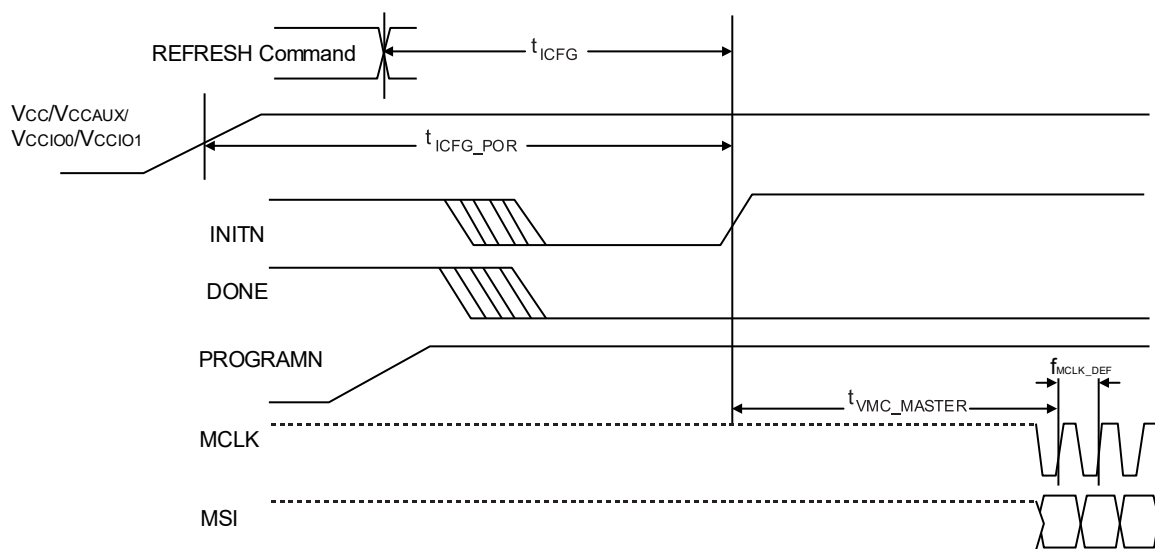
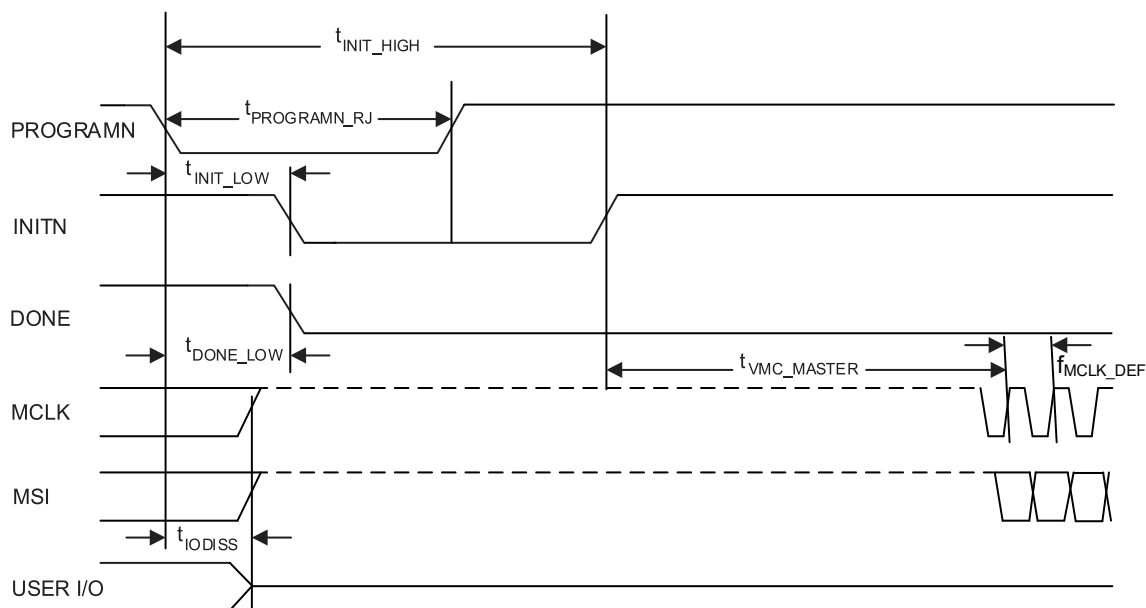
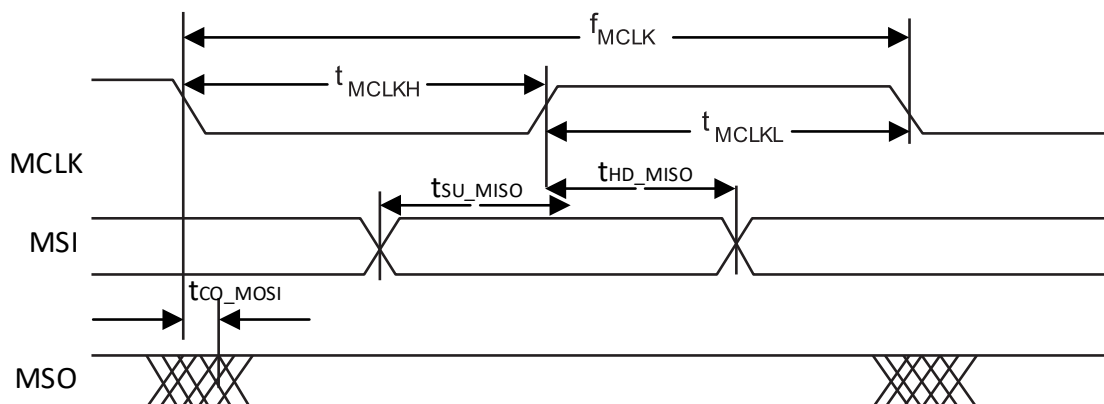
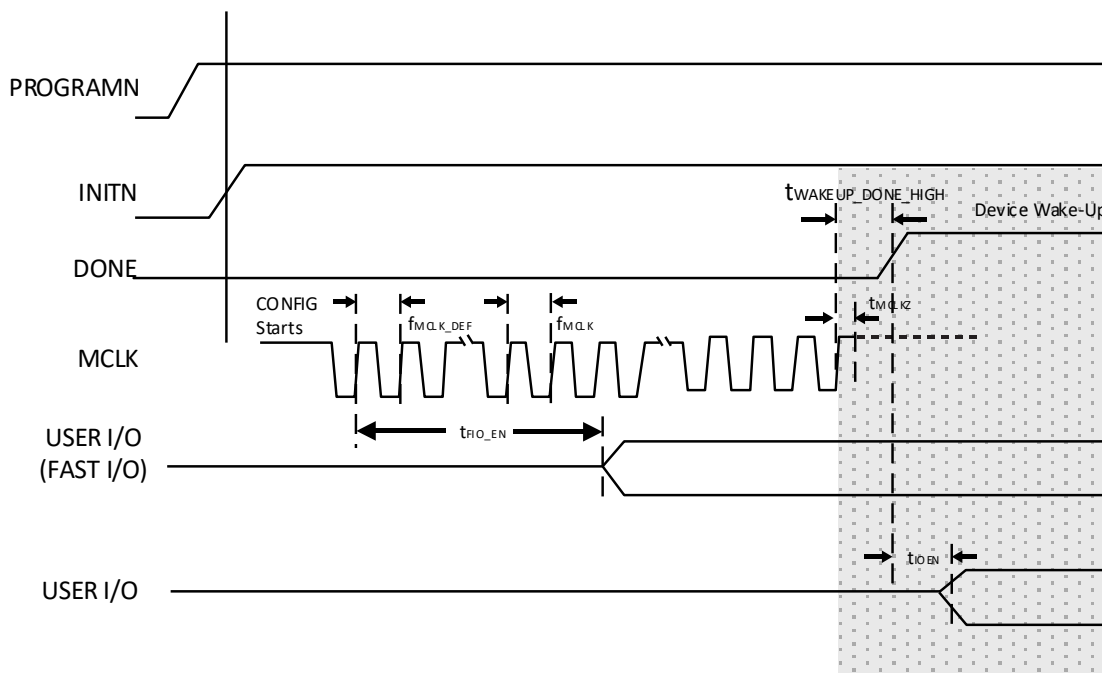

Figure 2.14. Controller SPI POR/REFRESH Timing (Certus-N2 only)
Figure 2.16. Controller SPI PROGRAMN Timing (Certus-N2 only)
Figure 2.18. Controller SPI Configuration Timing (Certus-N2 only)
Figure 2.20. Controller SPI Wake-Up Timing (Certus-N2 only)
- added the SERDES and PCIe rows. Table 2.32. Nexus 2 External Switching Characteristics (VCC = 0.82 V): - changed the t_{W_PRI} Clock Pulse Width for Primary Clock value from 0.94 ns to 1.25 ns; - changed the t_{SKEW_R1B} Region Clock skew within 1 HPIO Bank value from 151 ps to 160 ps; - changed the t_{W_EDGE} Clock Pulse Width for Edge Clock values from 0.39 ns and 0.44 ns to 0.36 ns and 0.40 ns; - changed the t_{W_PHY} Clock Pulse Width for PHY Clock values from 0.19 ns and 0.22 ns to 0.18 ns and 0.20 ns; - changed the $f_{DATA_GDDR4_MP}$ Input Data Bit Rate for MIPI PHY from 1200 Mbps to 1800 Mbps. Table 2.34. Internal Oscillators (VCCa = 0.8 V, VCCauxa = 1.8 V): changed the DCH_{CLKHF} Duty Cycle (Clock High Period) minimum and maximum from 35% and 65% to 43% and 57%. - Newly added the Flash Download Time section. - Newly added the Flash Program and Erase Current section. - Newly added the Generic SERDES Specification section. Table 2.50. Nexus 2 sysCONFIG Port Timing Specifications: - changed the $t_{PROGRAMN}$ PROGRAMN LOW pulse accepted value from 1500 ns to 1200 ns; - changed the $t_{PROGRAMN_RJ}$ PROGRAMN LOW pulse rejected value from 25 ns to 500 ns; - added Note 3, Certus-N2 devices only. - Updated figure caption to the current for Figure 2.14. Controller SPI POR/REFRESH Timing (Certus-N2 only), Figure 2.16. Controller SPI PROGRAMN Timing (Certus-N2 only), Figure 2.18. Controller SPI Configuration Timing (Certus-N2 only), and Figure 2.20. Controller SPI Wake-Up Timing (Certus-N2 only).